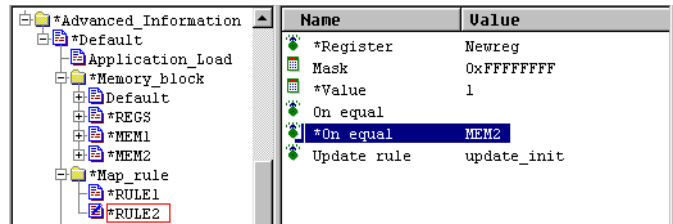

Figure 3-33 Settings for the second map rule
8. Set the value of *On_equal to MEM2. All board file entries are now complete (Figure 3-33 on page 3-35).